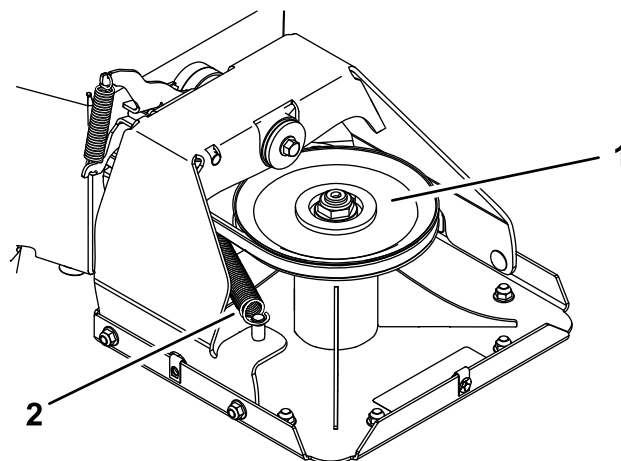
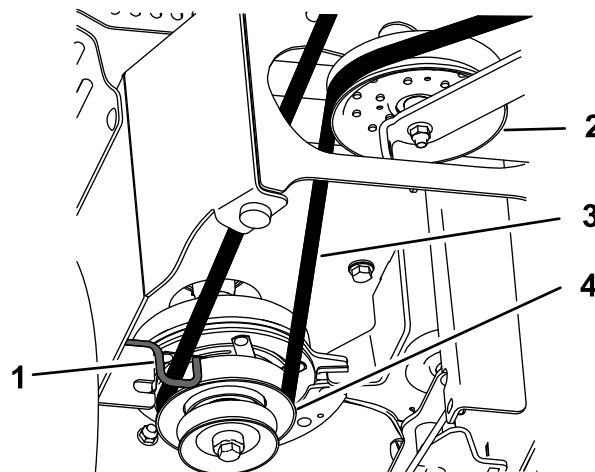

Figure 33
Figure 34
7. Detach the extension spring (Figure 33).
9. Route the new belt around the clutch pulley, through the belt guide, along the idler pulley, and around the deck pulley (Figure 33 and Figure 34).
10. Install the extension spring (Figure 33).